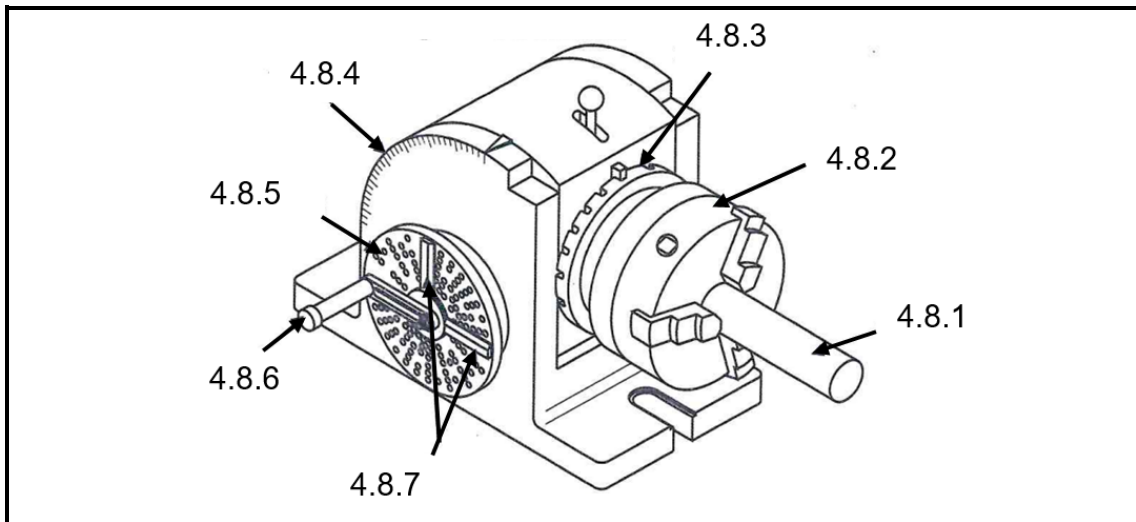

FIGURE 4
4.8 FIGURE 4 below shows a dividing head that is used on a milling machine. Identify the parts of the dividing head by writing only the answer next to the number (4.8.1–4.8.7) in the ANSWER BOOK. (7)